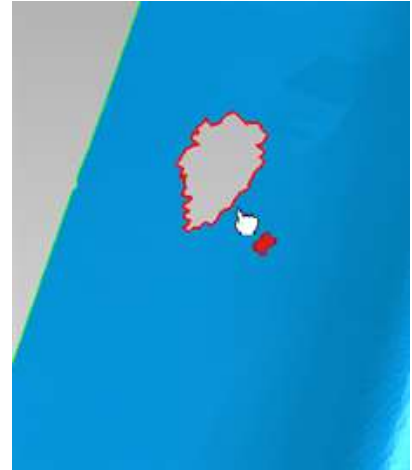

Figure 84
1. **Rotate** the view to the other end and locate the hole shown in **Figure 84**.